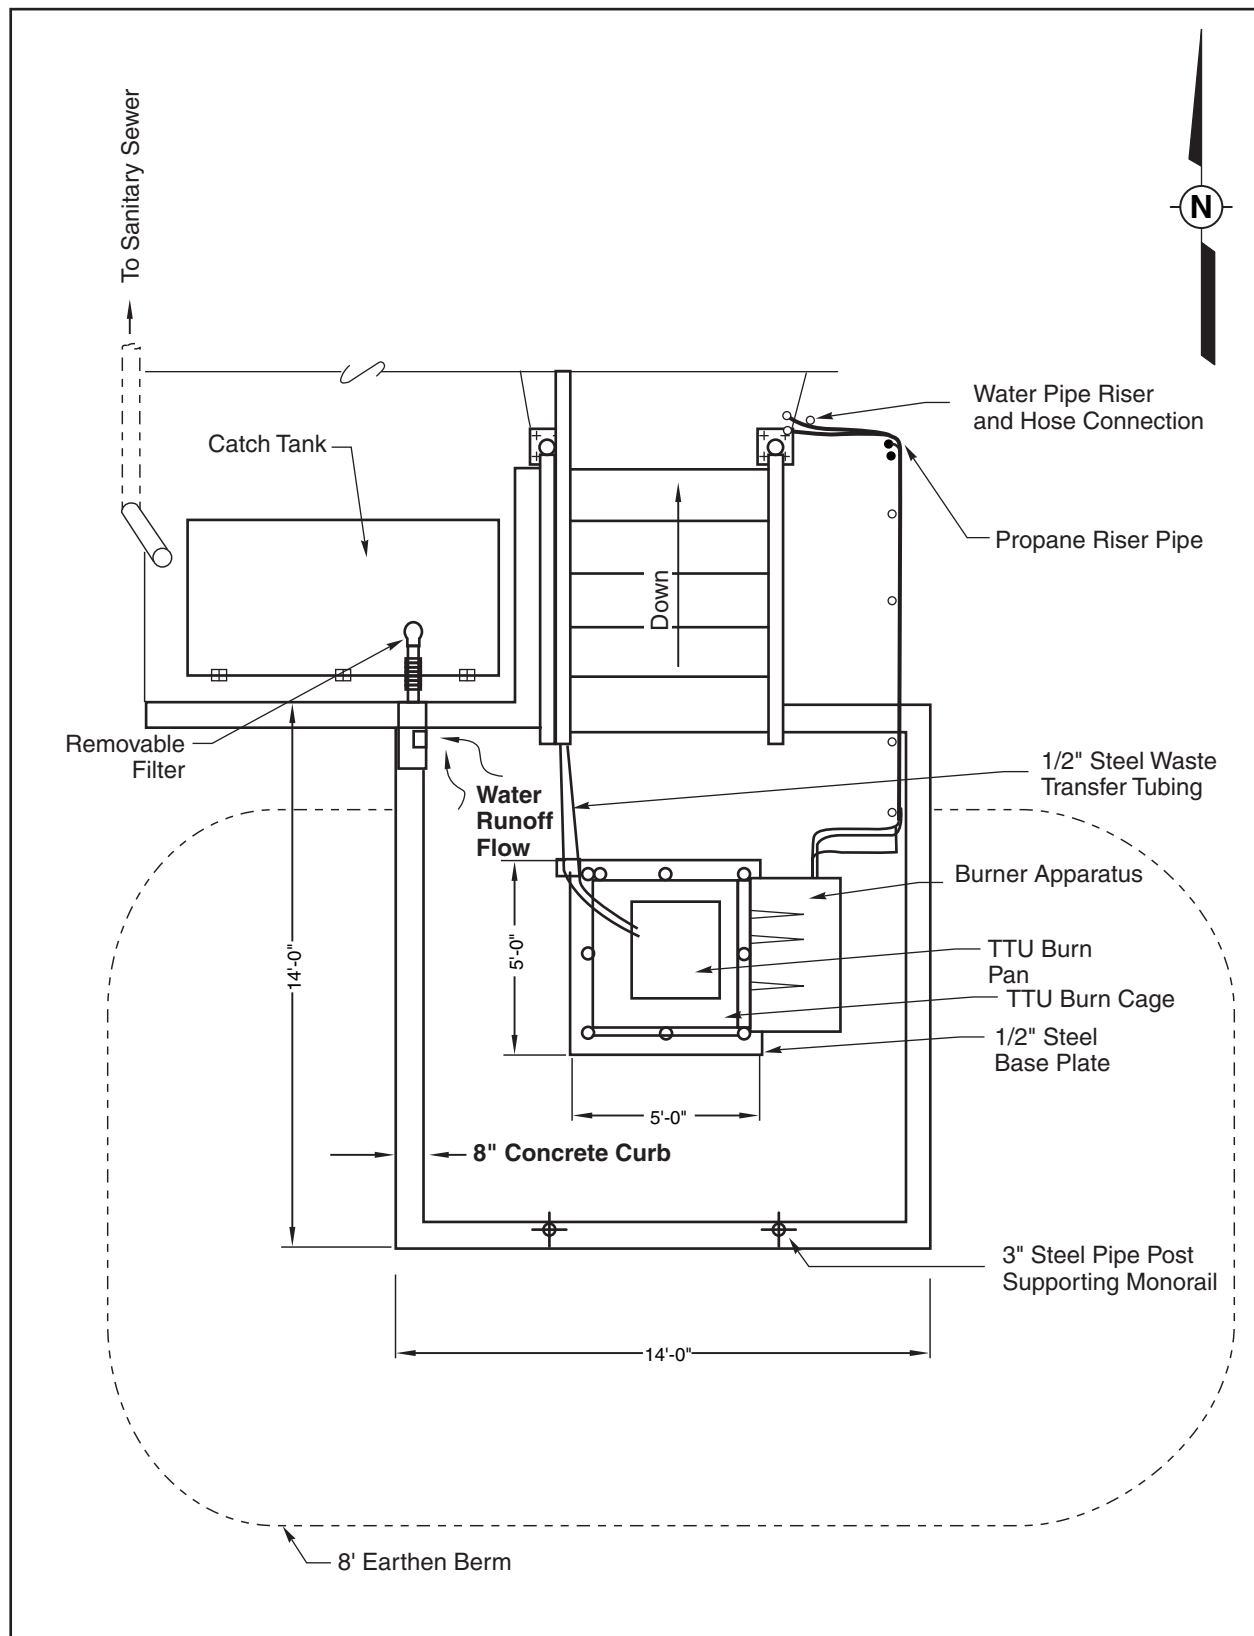

Figure 12
- Figure 12: Thermal Treatment Unit Drainage Control Features